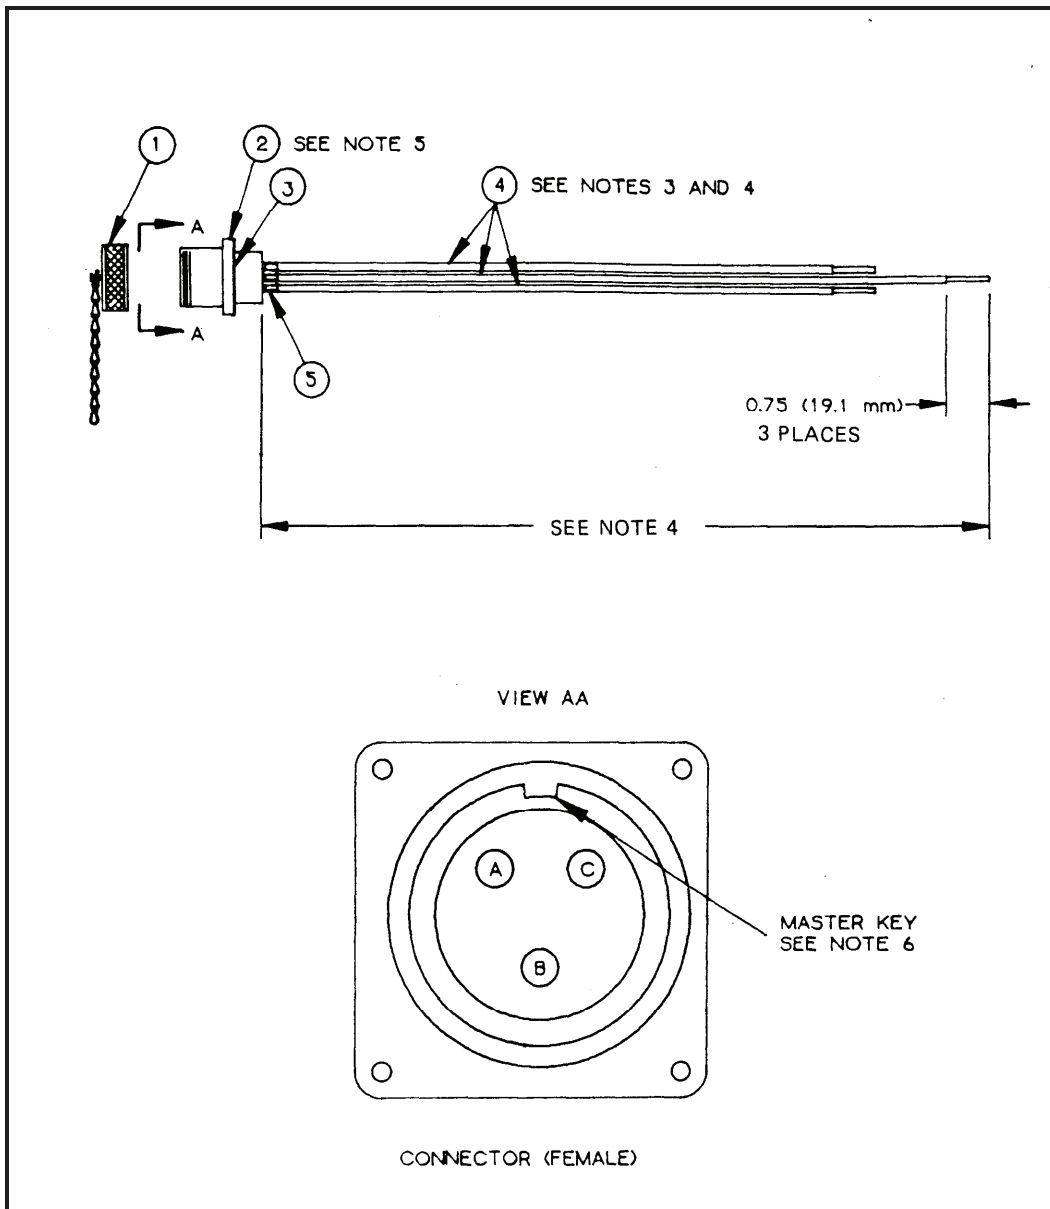

Figure F-33. M40/60 A/P (PDISE) 20-Amp, Output Connector Assemblies.
Component Legend for Figure F-33
c. Electrical connector (Figure F-33, Item 2) is furnished with the following: